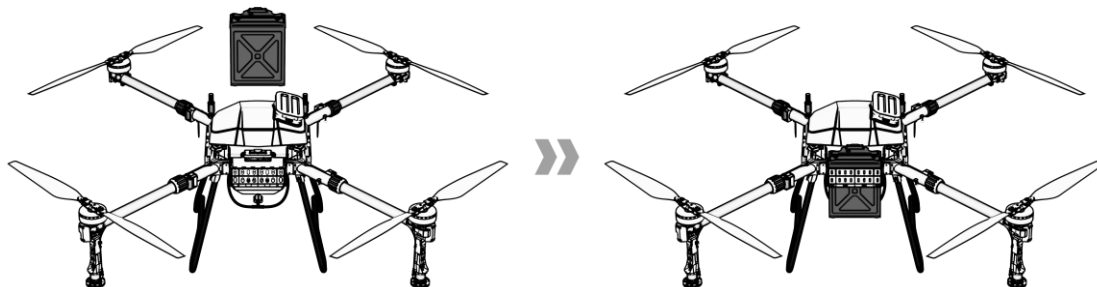

Figure 1-35 Insert the battery
Step 5: Unfold the propellers to 180°, as shown in Figure 1-35.